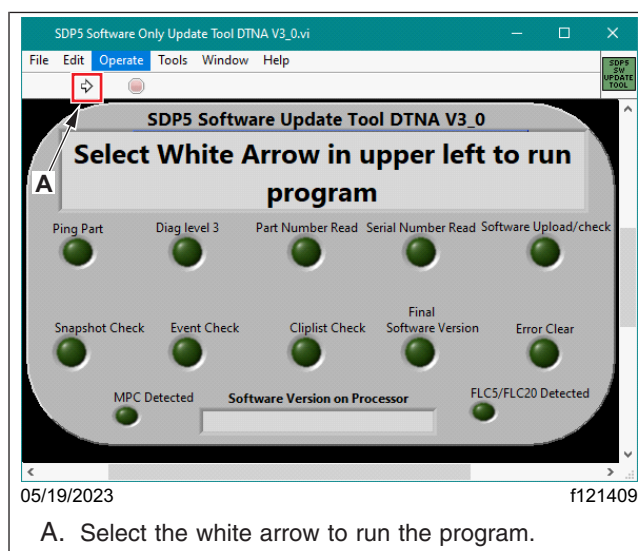

Fig. 21, Running the Program
9. The 'SDP5 Software Only Update Tool DTNA V3_0.vi' window appears. Select the white arrow in the upper-left corner to run the program. See Fig. 21.